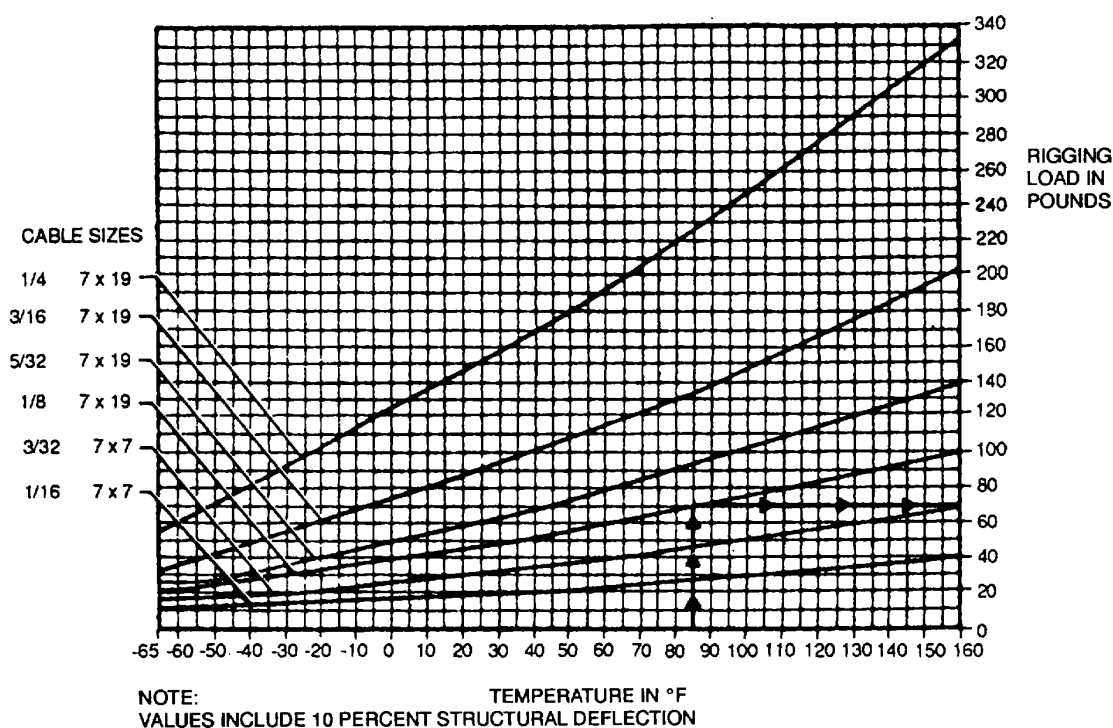

Figure 7-7. Typical Cable Rigging Tension Chart
d. Cable Rigging Tension Charts. Cable rigging tension charts are graphic tools used to compensate for temperature variations. They are used when establishing cable tensions in flight control systems, landing gear systems, or any other cable-operated systems. A typical chart is shown in figure 7-7. To use the chart, proceed as follows: